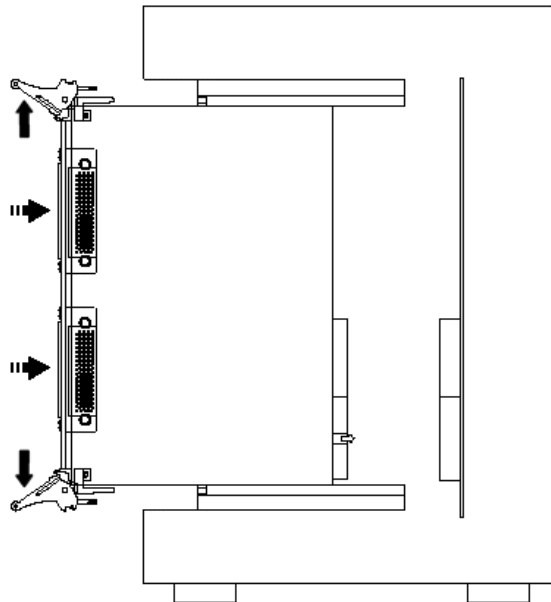

Figure 3-4: Inserting PXI board
5. Carefully slide the PXI board to the rear of the chassis, make sure that the ejector handles are pushed **out** (as shown in Figure 3-4).